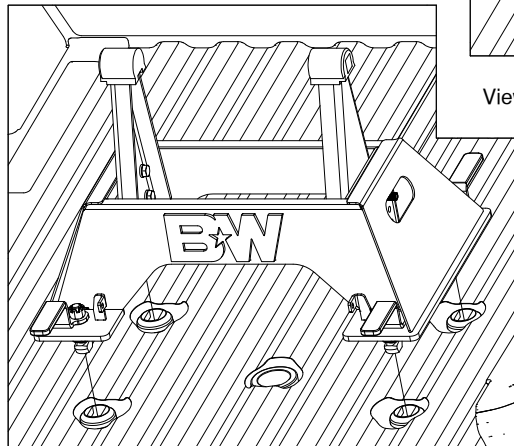

Figure C1: View of unlatched base.
- Place base.** Remove the latch pins from each side of the base and rotate the handles out, see Figure C1. Position the base over the attachment points. Carefully lower it until the latch cams pass through the floor and the base rests flat against the top of the attachment points.